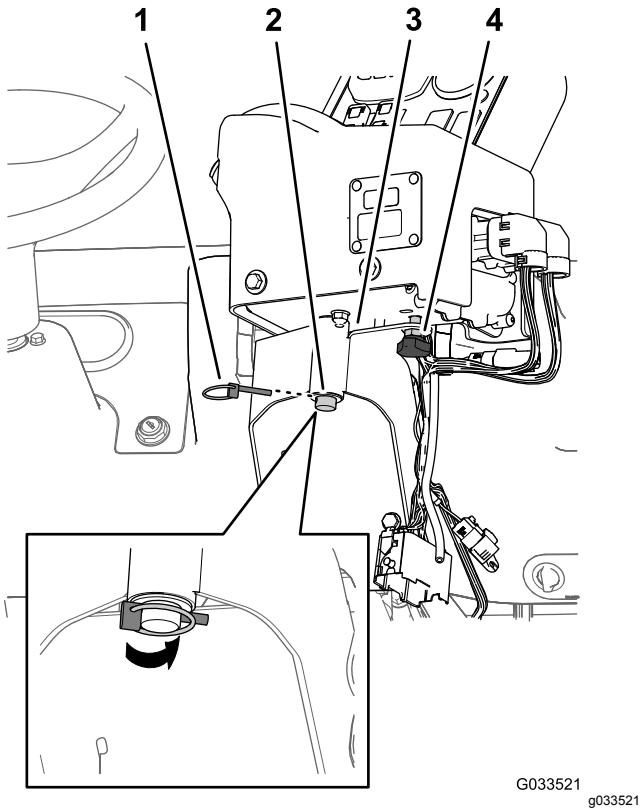

Figure 19
2. Install the control console onto the control mounting bracket and secure the control console with the spring-clip pin (Figure 19).
3. Install the hand knob and tighten it to prevent the console from rotating during operation (Figure 19).